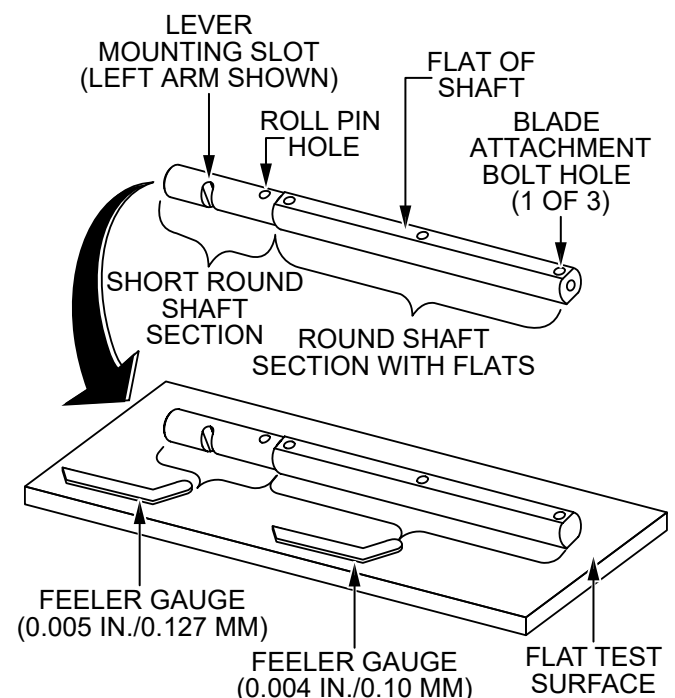

Figure 50. Checking Trowel Arm Straightness
- Place the trowel arm onto a thick steel plate, granite slab, or any other surface which is flat and true (Figure 50).
- Check each of the flat sides of the trowel arm (Figure 50). A **feeler gauge** of **0.004 in. (0.10 mm)** should not pass between the flat of the trowel arm and the test surface along its length on the test surface.
3. Check the clearance between the **short round shaft section** and the test surface as one of the flat sections of the arm rests on the test surface (Figure 50). Rotate the arm to each of the flat sections and check the clearance of the round shaft. Use a **feeler gauge** of **0.005 in. (0.127 mm)**. Each section should have the same clearance between the round of the trowel arm shaft and the test surface.